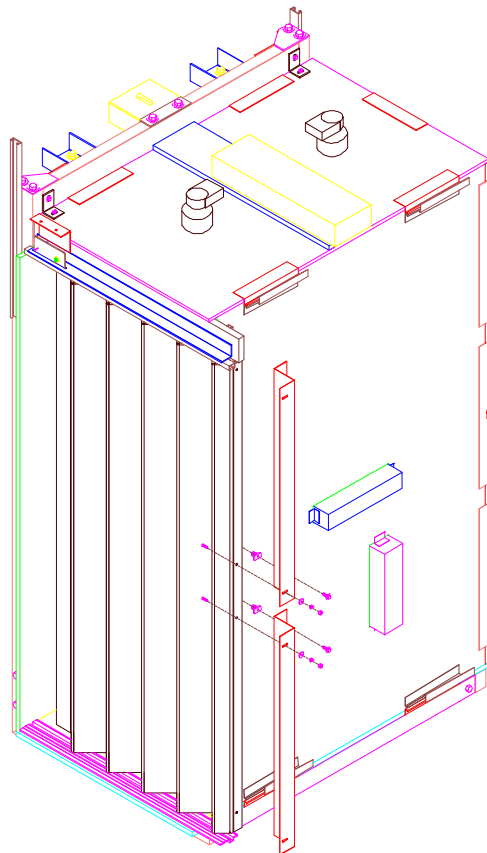

Figure 15
6. Install the gate tracks and gates (Fig 15). Adjust the angle of the track so the strike post of the gate is plumb with the strike wall. Adjust the level of the track so that the bottom guide pins are about 1/8" above the bottom of the groove.